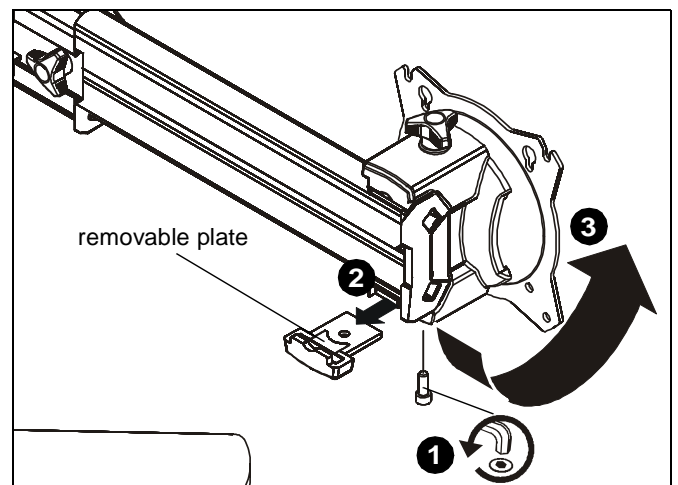

Figure 23
1. Remove hex head bolt from bottom of faceplate assembly. (See Figure 23)
2. Slide out removable plate from bottom of faceplate assembly. (See Figure 23)
3. Remove faceplate assembly from array arm. (See Figure 23)